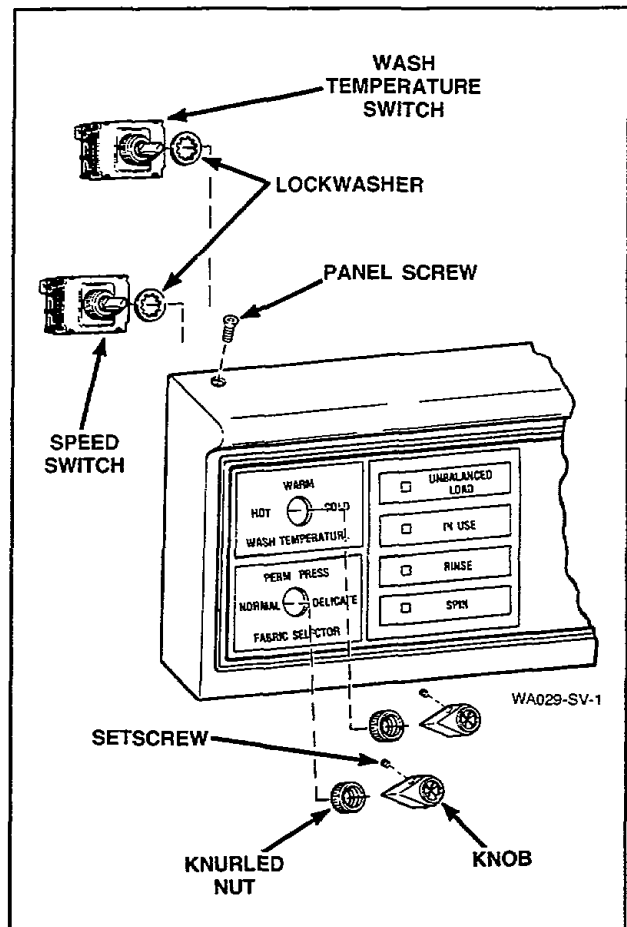

Figure 6
- Loosen setscrew holding switch knob to switch shaft, Figure 6.
- Remove knurled nut holding switch to control panel, Figure 6.
NOTE: Lockwasher must be between switch and control panel when installing switch, Figure 6.